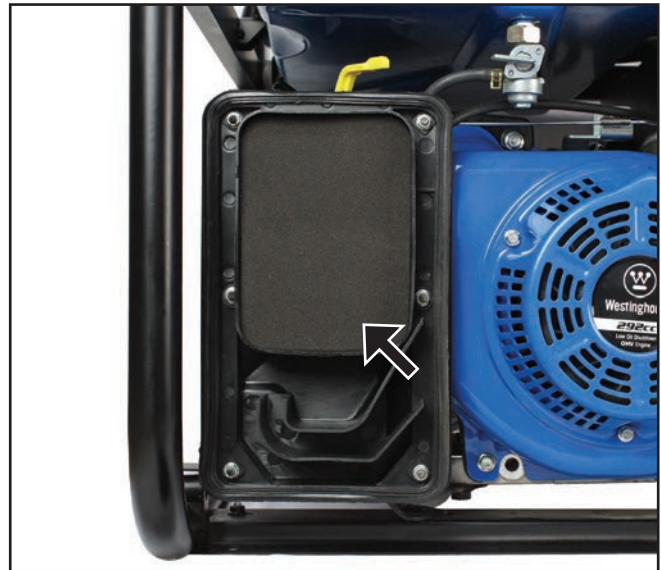

Figure 39 – Removing Air Filter Elements
5. Remove the two foam air filter elements while taking care to note their positions (see *Figures 39 and 40*). The black foam air filter element is the coarse stage and must be reinstalled at the front directly underneath the air filter cover. The grey foam air filter element is the fine stage and must be reinstalled at the back of the air filter assembly.
10. Reinstall the air filter elements inside the air filter assembly box. Make sure the air filter elements are correctly positioned with the grey foam at the back and the black foam at the front closest to the air filter cover (see Figures 39 and 40).